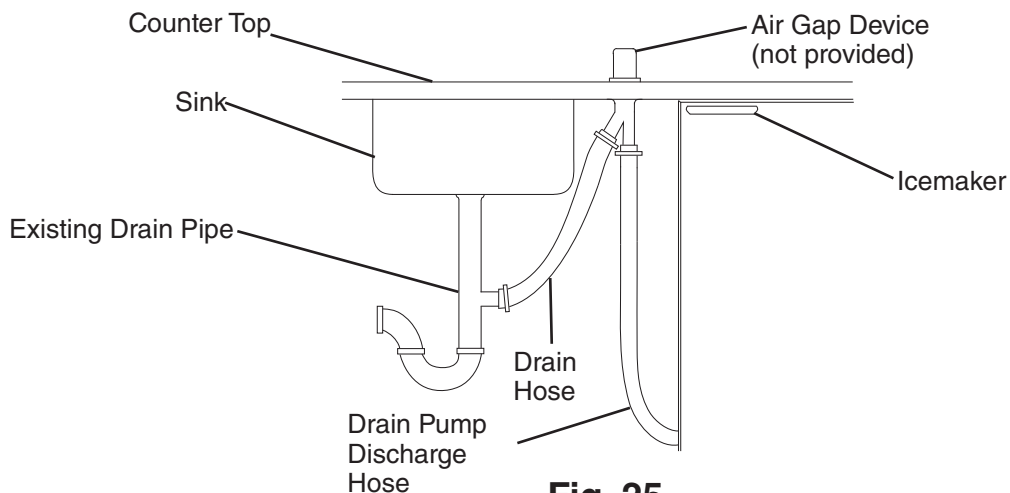

Fig. 25
a) Hard Pipe Drain Line Installation: When connecting with hard pipe, the maximum hard pipe length is 20 feet (6 m). The maximum discharge hard pipe lift height is 10 feet (3.05 m). See Fig. 25.